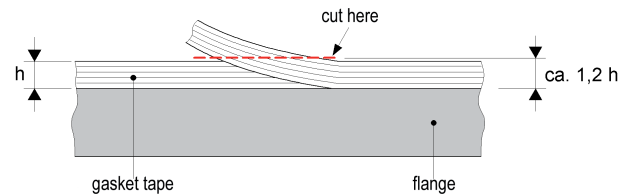

Figure 2
- Close and cut the gasket tape as shown in Figure 2.